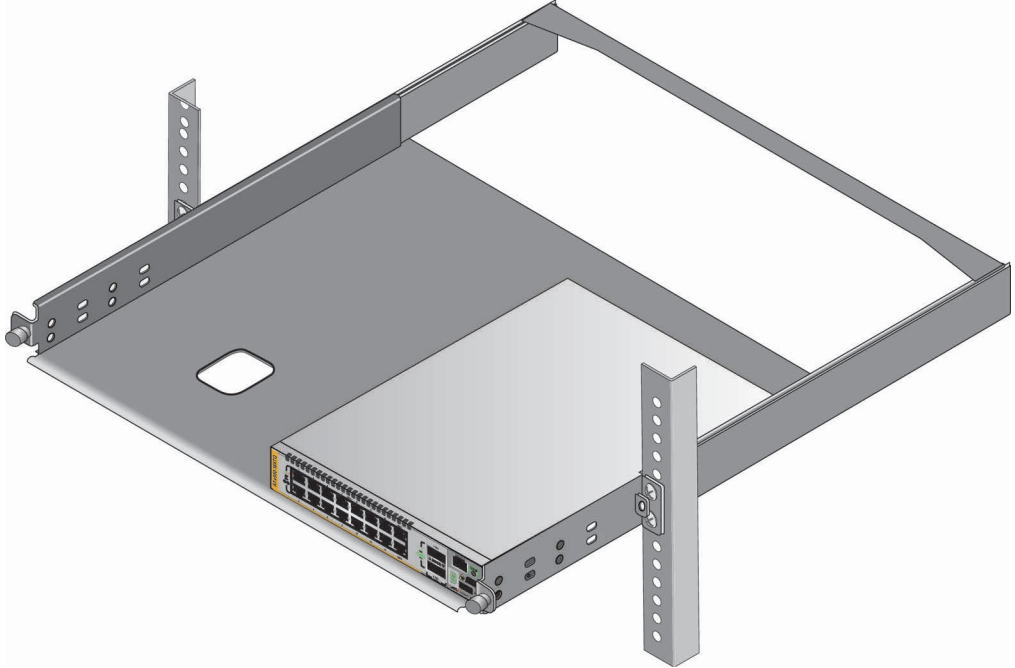

Figure 32. Placing a Switch in the AT-RKMT-J15 Bracket
7. Place the switch in the left or right side of the bracket, with its front panel facing the front of the bracket. If you are installing only one switch, you can install it on either the left or right side. Refer to Figure 32 on page 69.